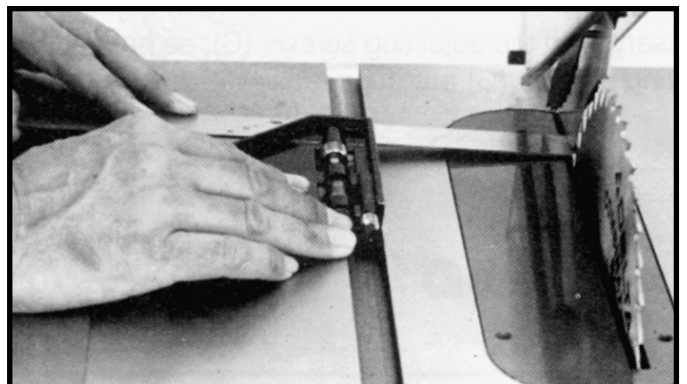

Fig. 36
2. Rotate the saw blade so that the same tooth you used in **STEP 1** is in the rear position, as shown in Fig. 36, and check this distance. Both the front and rear measurements should be identical.